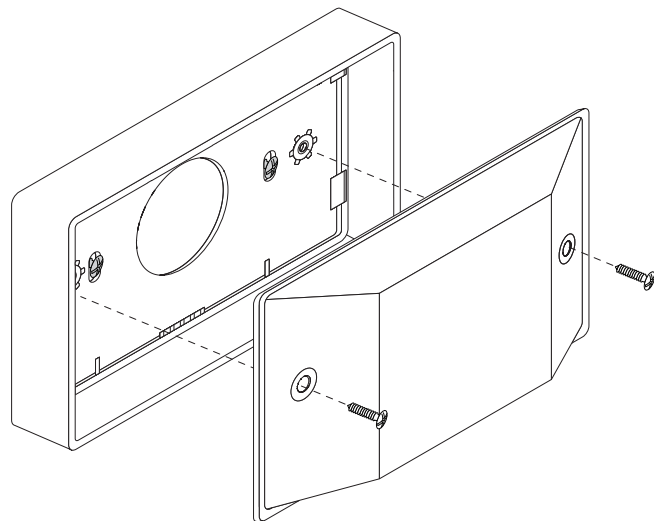

Figure 3: Assembling the Housing
4. Attach the housing top to the mounted base with the housing fastener screws. Refer to Figure 3.